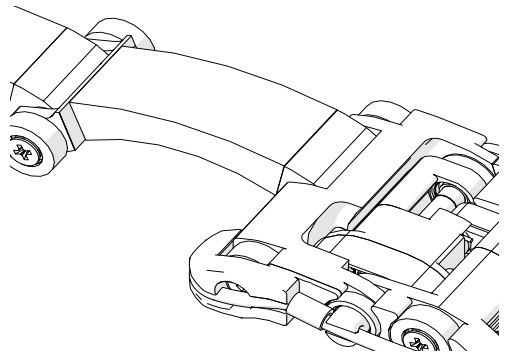

Fig. 104 - No wheel link between scanner and link
4. A wheel link is not required when connecting the scanner's link mount (Fig. 28-L) to the chain configuration (Fig. 104).